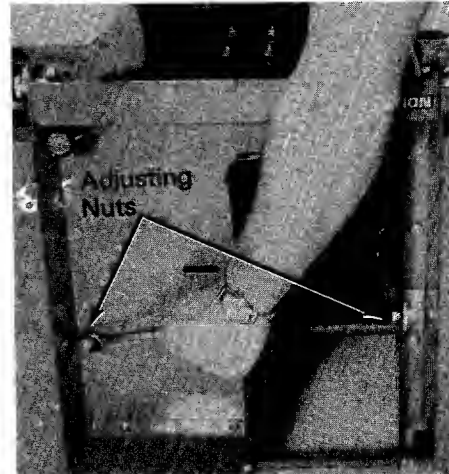

FIGURE 43.
2. Tighten the adjusting nuts as shown in figure 43 until you have the proper tension.